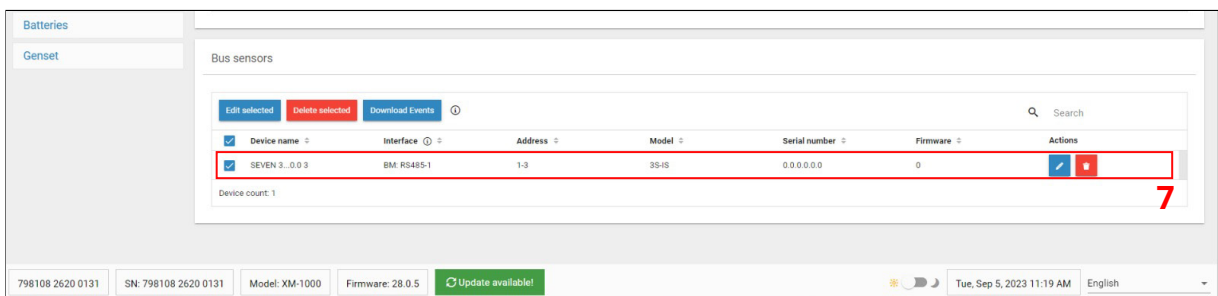

Figure 4: Founded Sensors
Step 7 : When the connection with SEVEN Sensor Box is established, it will be displayed in the **"Bus Sensors"** section as shown in Figure 4.